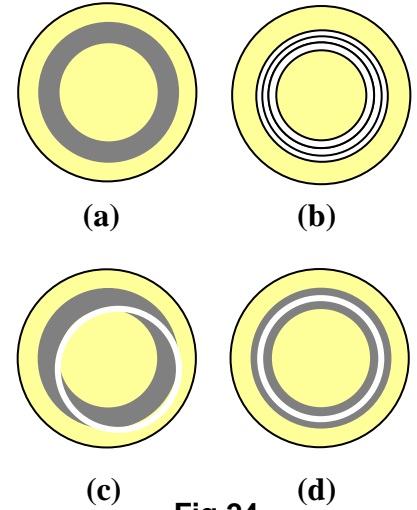

Fig.24
- g. Turn the top of the telescope (**Fig.25**) until the dark ring image is in focus. If the dark ring is hard to find, put a normal white print paper on the stage and under the objective then you will see the dark ring as shown in **Fig.24 (a)**.
- h. If the bright ring is still obscure as in **Fig.24 (b)**, raise or lower the condenser by adjusting the condenser focusing knob (or the microscope focusing knob if necessary) till the bright ring is in focus and the dark ring is visible.
- i. If the two ring images are not coincided as shown in **Fig.24 (c)**, adjust the two centering screws on the condenser ring plate till the two rings are coincided with each other as shown in **Fig.24 (d)**.